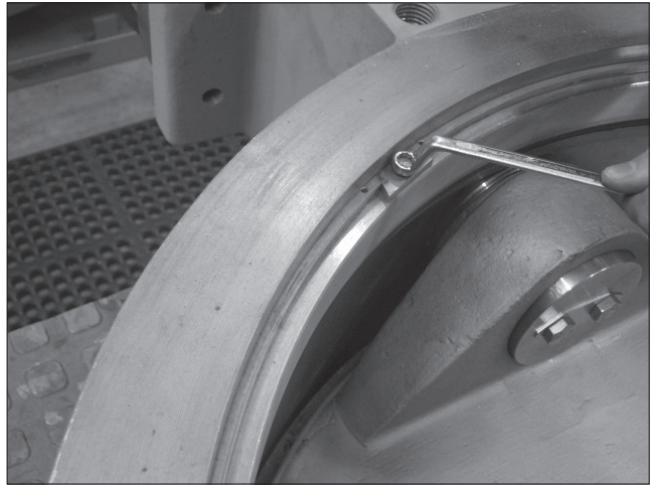
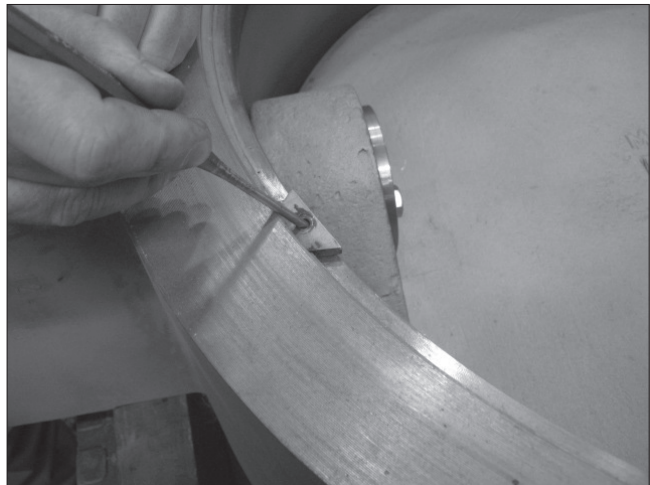

Fig. 35 Releasing the clamping shoe
Fig. 36 Extracting the clamping shoe
4. Release the clamping shoe with an open-ended or ring spanner (see fig. 35). The clamping shoe can then be extracted using a drift punch (see fig. 36).